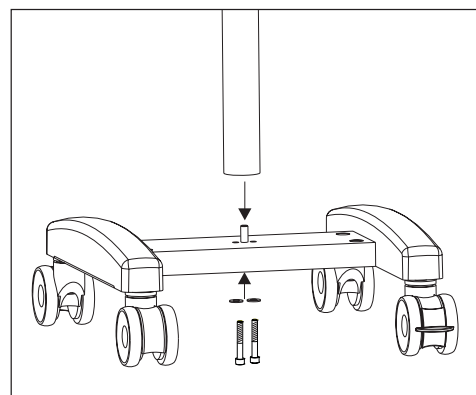
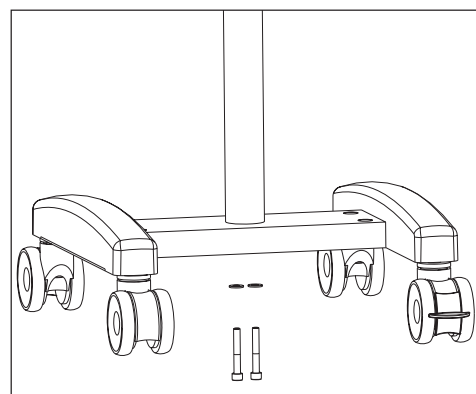

Fig. 2
Fig. 3
7.1 The base is installed by fixing the column on the base. Engage the column to the indexing screw on the base. See Fig. 2. Align the tapped hole of the upright in the screw seat, Hold the upright firmly and tight the allen screws from the bottom of the base. See Fig.3.